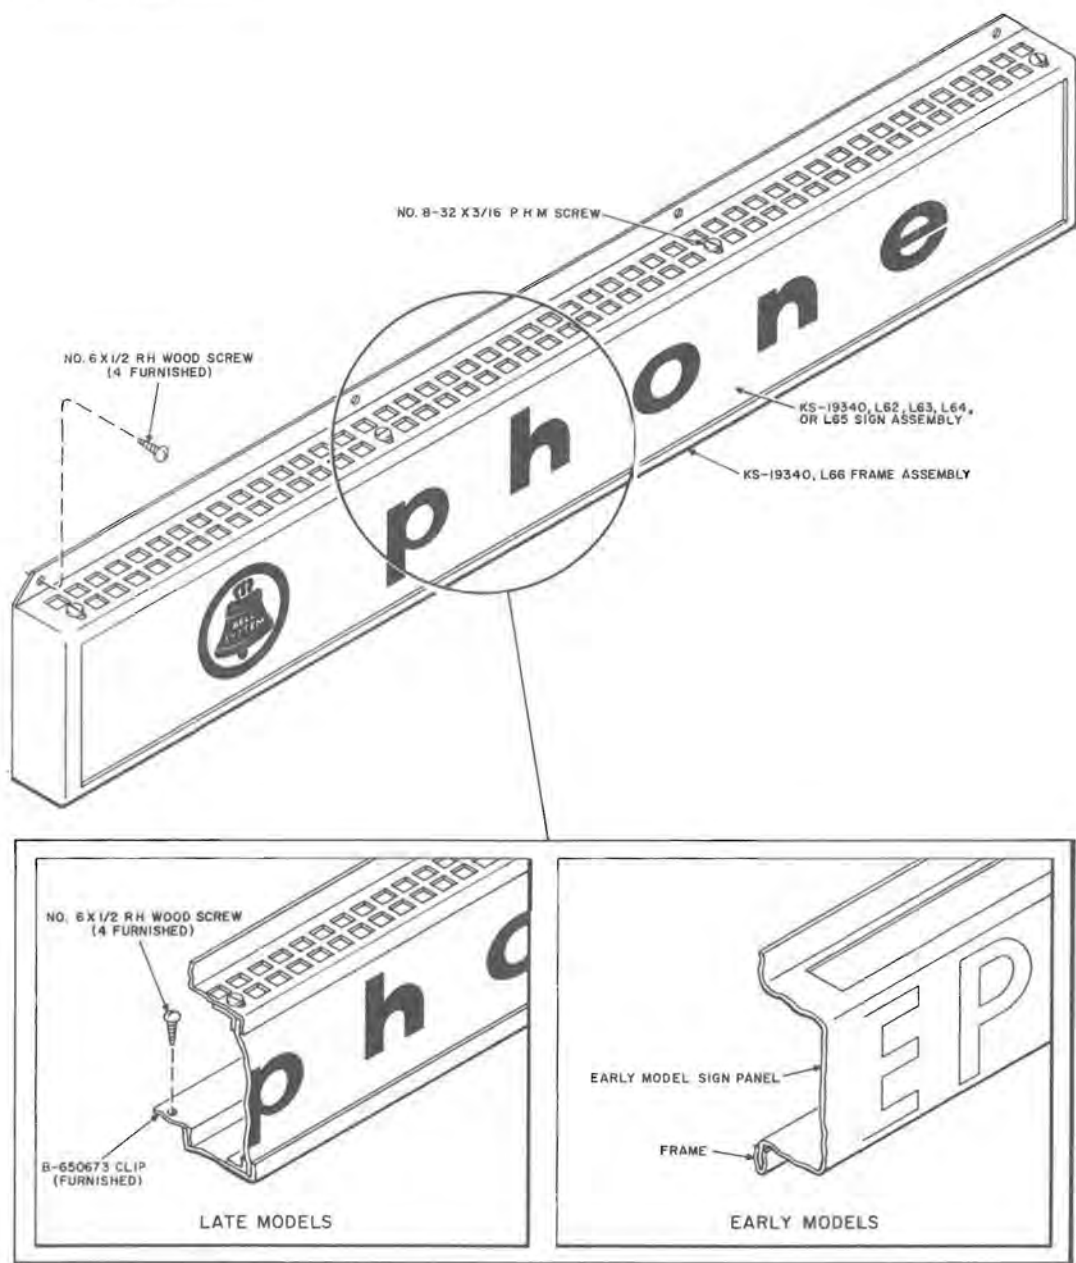

Fig. 8—KS-19340 Sign Assembly
- 4.22 To replace a sign panel or sign assembly, refer to Fig. 8 and perform the following: